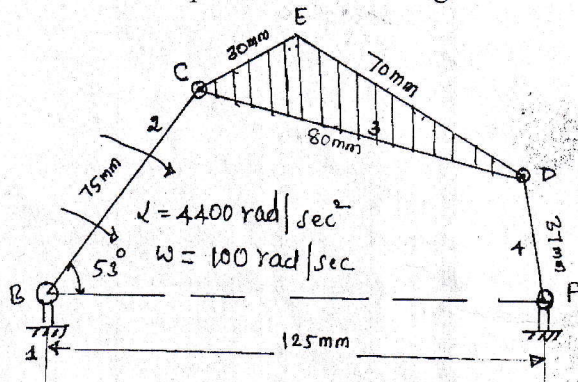

Fig. Q3
- 3 A four bar mechanism shown in Fig. Q3 crank BC rotates with an angular velocity of 100 rad/sec and an angular acceleration of 4400 rad/sec2 at the instant when the crank makes an angle 53° to the horizontal. Draw the acceleration polygon and determine the linear acceleration of points E and the angular acceleration of link 3. (20 Marks)